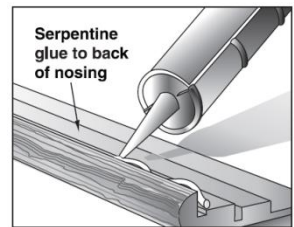

Fig. 28
7. Apply a 3/16" (4.76 mm) bead of adhesive in a serpentine pattern to the back of the step nose (**Fig. 28**). *Carefully read cautions on container and follow the manufacturer's recommended instructions on the adhesive label.*